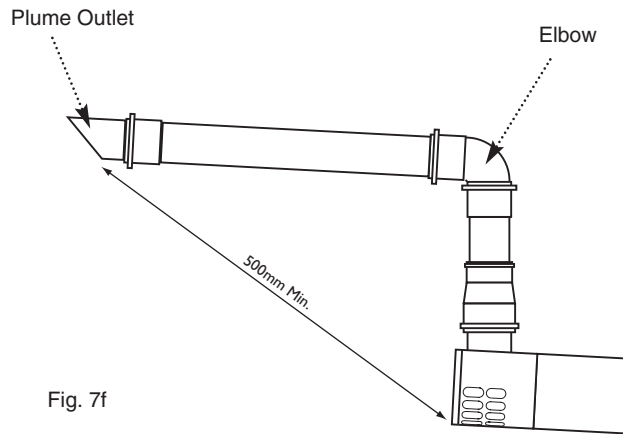
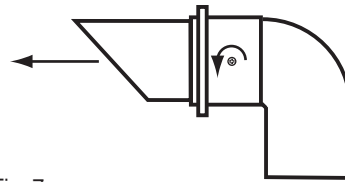

Fig. 7f
Fig. 7g
16. It is also possible to separate the plume outlet from the 93° elbow to allow the flue to be installed as shown in Fig. 7f.
17. To do this, first slacken the two screws retaining the plume outlet to the elbow, and remove the outlet (Fig. 7g). The elbow can now be used to connect the vertical to horizontal 60Ø exhaust (Fig. 7f). Retighten the screws in the elbow.